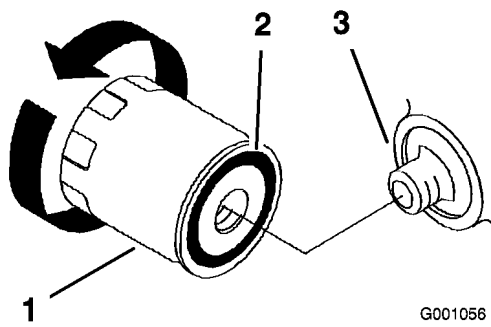

Figure 34
2. Remove the old filter (Figure 34).
4. Apply a thin coat of new oil to the rubber gasket on the replacement filter (Figure 34).
5. Install the replacement oil filter to the filter adapter, turn the oil filter clockwise until the rubber gasket contacts the filter adapter, then tighten the filter an additional 3/4 turn (Figure 34).